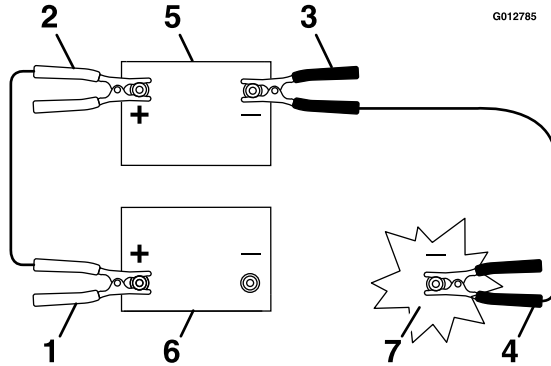

Figure 14
3. Connect the positive (+) cable to the positive (+) terminal of the discharged battery that is wired to the starter or solenoid as shown in Figure 14.